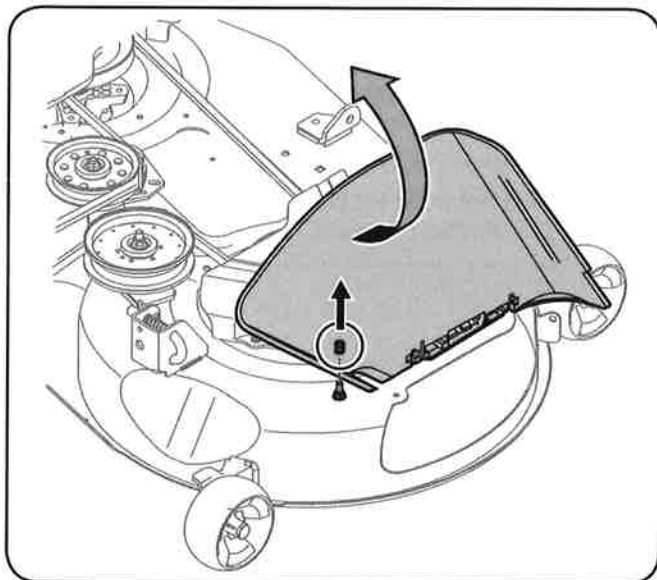

Figure 1-3
1. Pivot the chute deflector upward and remove the protective cover from the pin found on the deck's surface. See Figure 1-3.